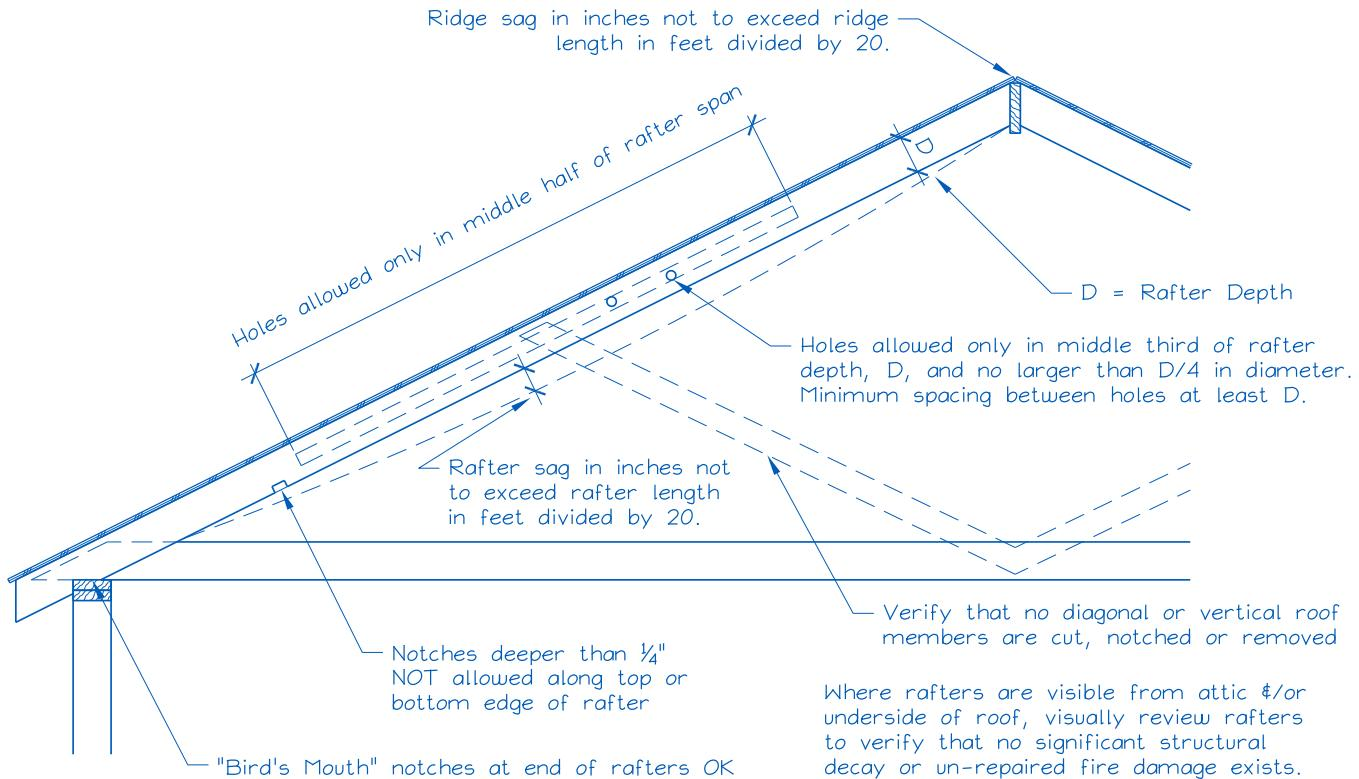

Figure 1. Roof Visual Structural Review of Existing Conditions. (Site Audit)
2) Does the roof structure appear structurally sound, without signs of alterations or significant structural deterioration or sagging, as illustrated in Figure 1? Y N